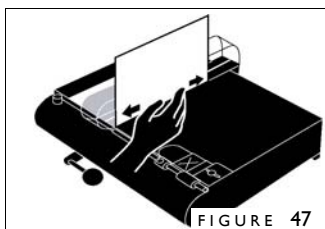

FIGURE 47
3. Fold your cover up to the left so it rests against the side of the Die Holder (figure 47). Run your finger back and forth at the bottom at the spine area of the cover so it makes a sharp fold at the bottom.